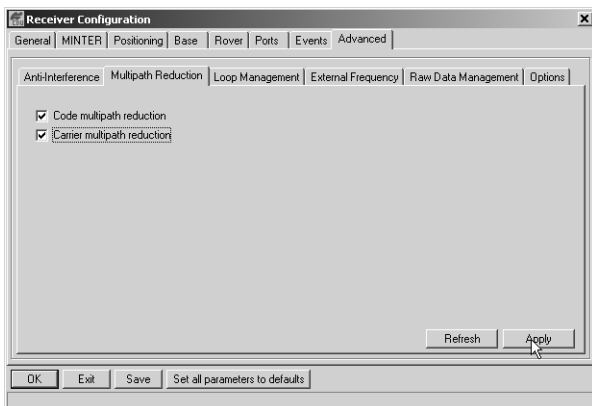

Figure 2-9. Advanced Configuration – Multipath Reduction
5. Click the **Multipath Reduction** tab, enable the following boxes, and click **Apply** (Figure 2-9).